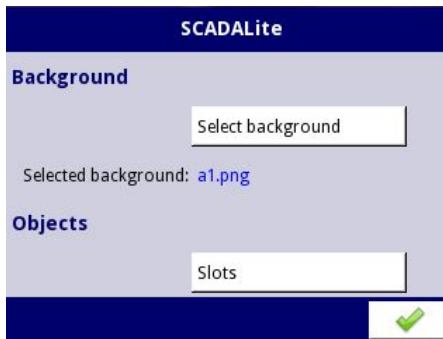

Fig. 7.132. Screen of SCADALite parameter
- **Slots** – this button refers to the configuration of the individual slots. View the submenu presented in **Fig. 7.132**. It allows the user to access the parameters determining the way of presenting results: